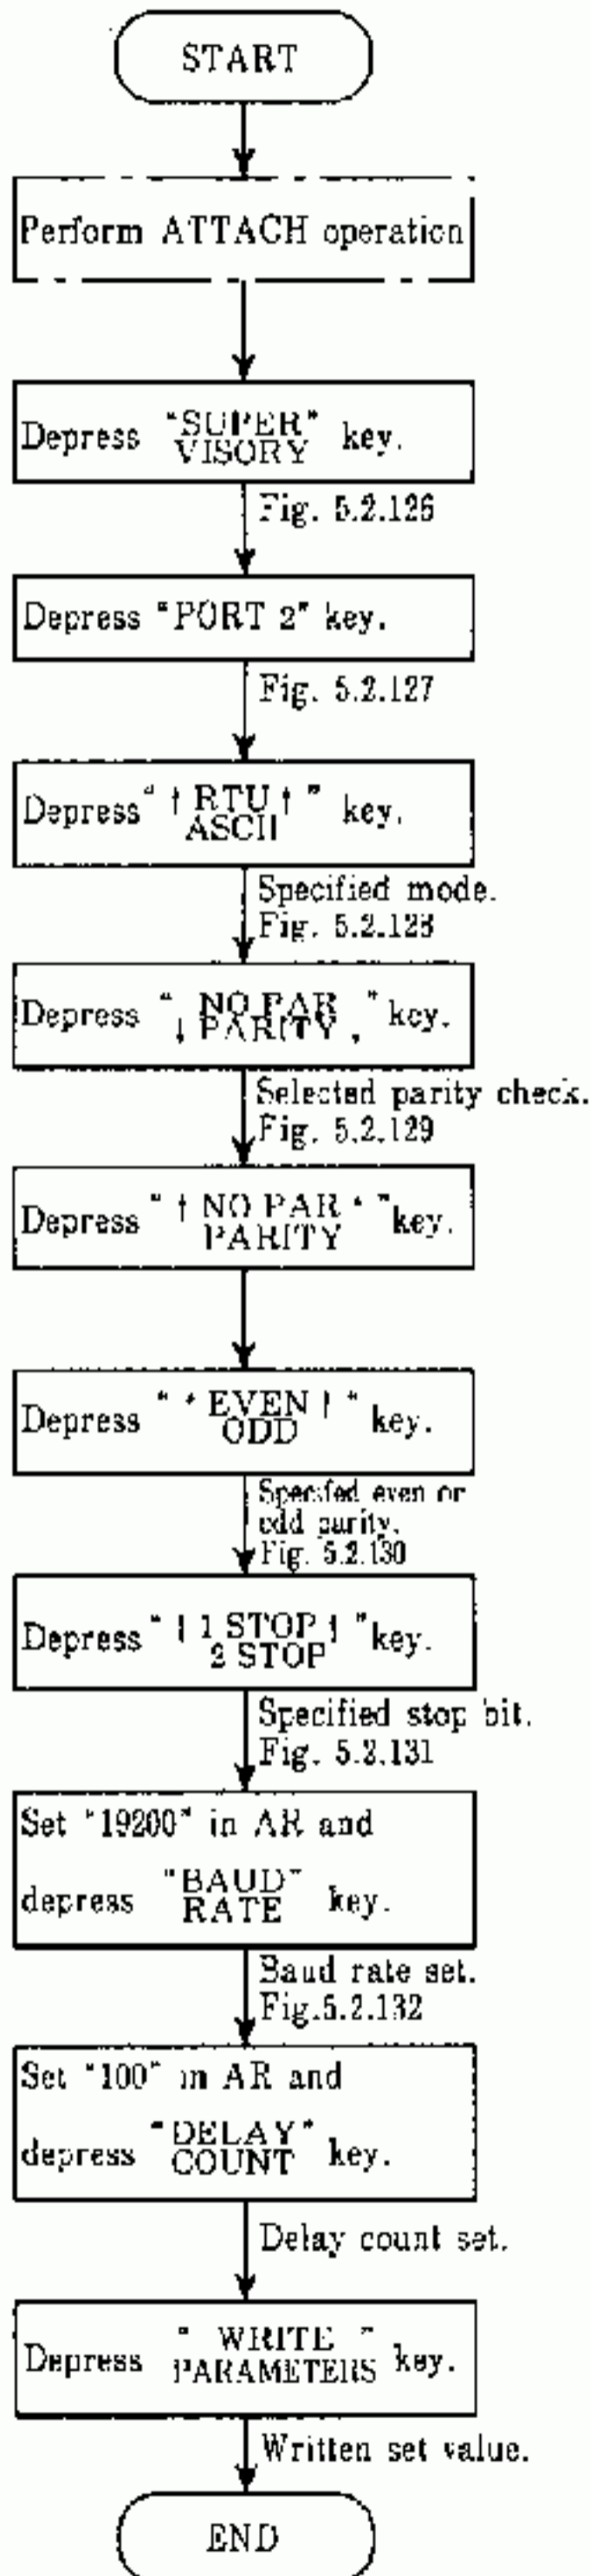

Fig. 5.2.126
4. When "PREVIOUS MENU" is depressed (Fig. 5.2.127), the set data is not written, and the display returns to that shown in Fig. 5.2.126.